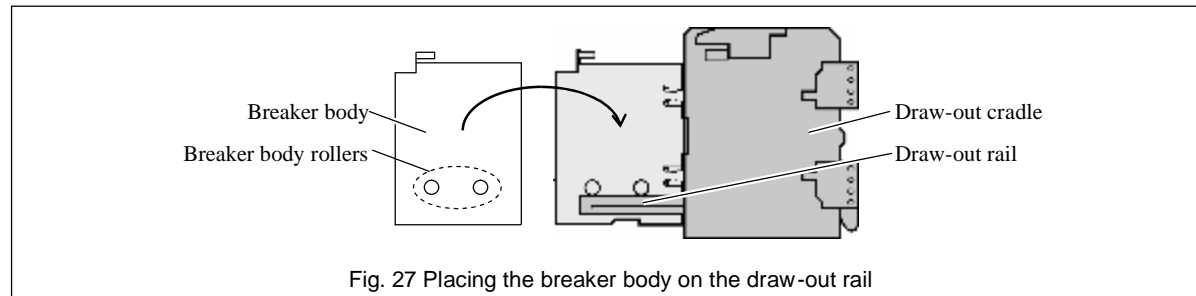

Fig. 27 Placing the breaker body on the draw-out rail
- 3) Use an optional lifter or lifting plate to place the breaker body rollers (Fig. 27) on the draw-out rail (Fig. 27).